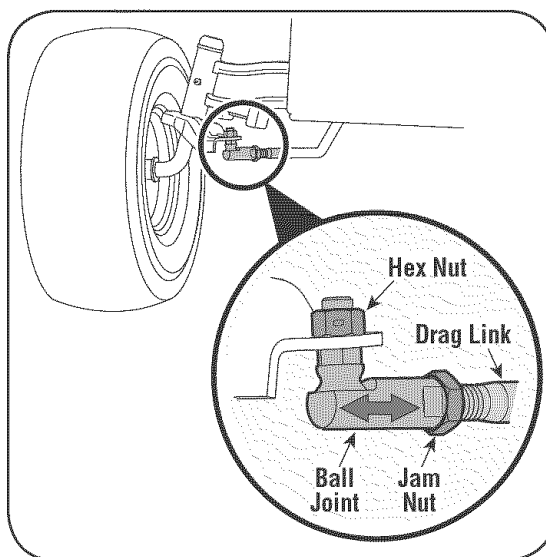

Figure 12
1. Loosen the jam nut found on the drag link at the rear of the ball joint. See Figure 12.
2. Remove hex nut on the top of ball joint. See Figure 12.